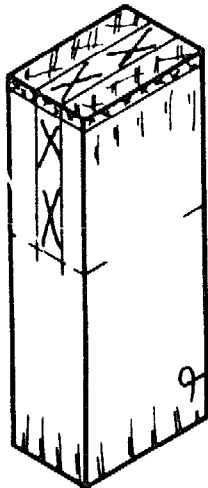

Fig. 5
- With the same setting on the gauge, mark around the end of the socket. Mark the waste (Fig. 5).